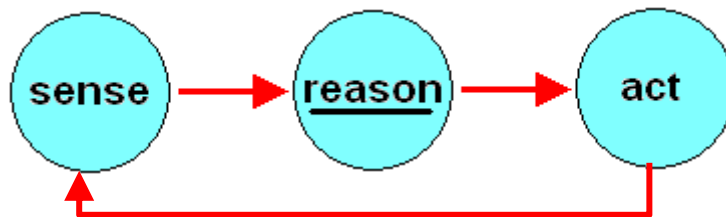

Fig 7: Sense, Reason, Act Loop.
- You are going to make a program that reads the left sensor every time a *behavior* is called. If this sensor has a higher value than that of black, the robot moves to the right, but if it detects black it moves to the left. This will make the robot zigzag on the border of the black line. As we are using the left sensor, the robot will follow the line on the left side (as shown in figure 7).